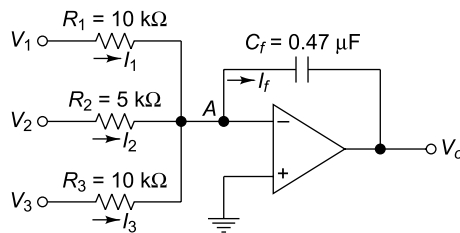

Fig. 5.35 Circuit of Ex. 5.15
5.15 Derive the output voltage of the integrating operational amplifier circuit as shown in Fig. 5.35. Assume operational amplifier is an ideal one.